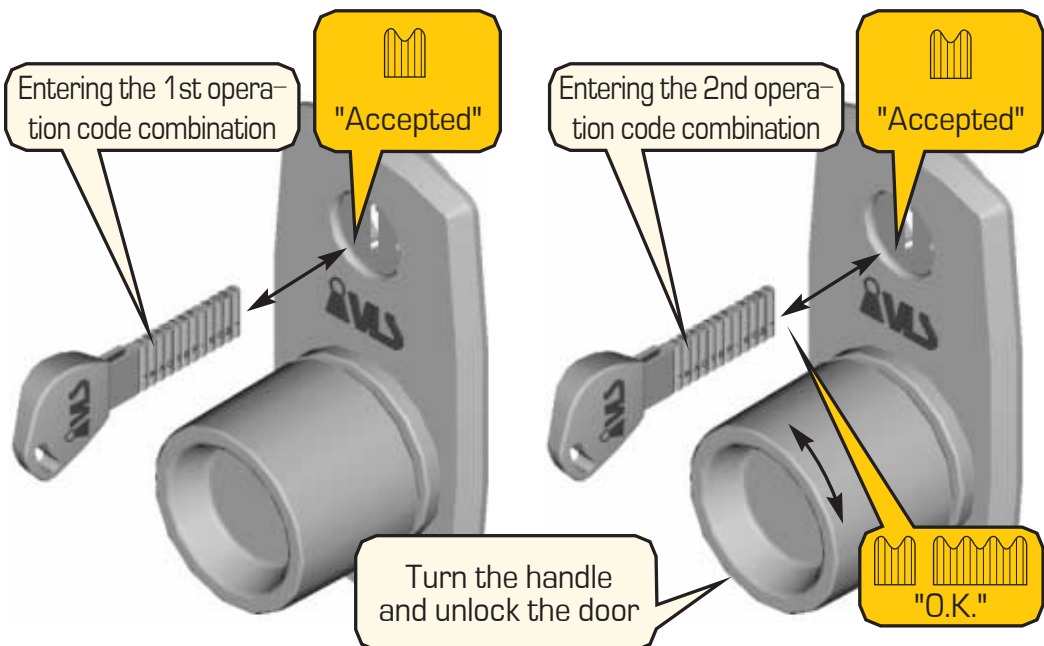

Figure 27 – Operation Code Programming
7. Insert the key into the keyhole up to the stop, and then remove it. When you insert the key, the "Accepted" signal shall be heard, and when you remove it the "Accepted" signal shall also be heard (figure 27).
9. Insert the key into the keyhole up to the stop, and then remove it. When you insert the key, the "Accepted" signal shall be heard, and when you remove it the "Accepted" signal shall also be heard (figure 27).